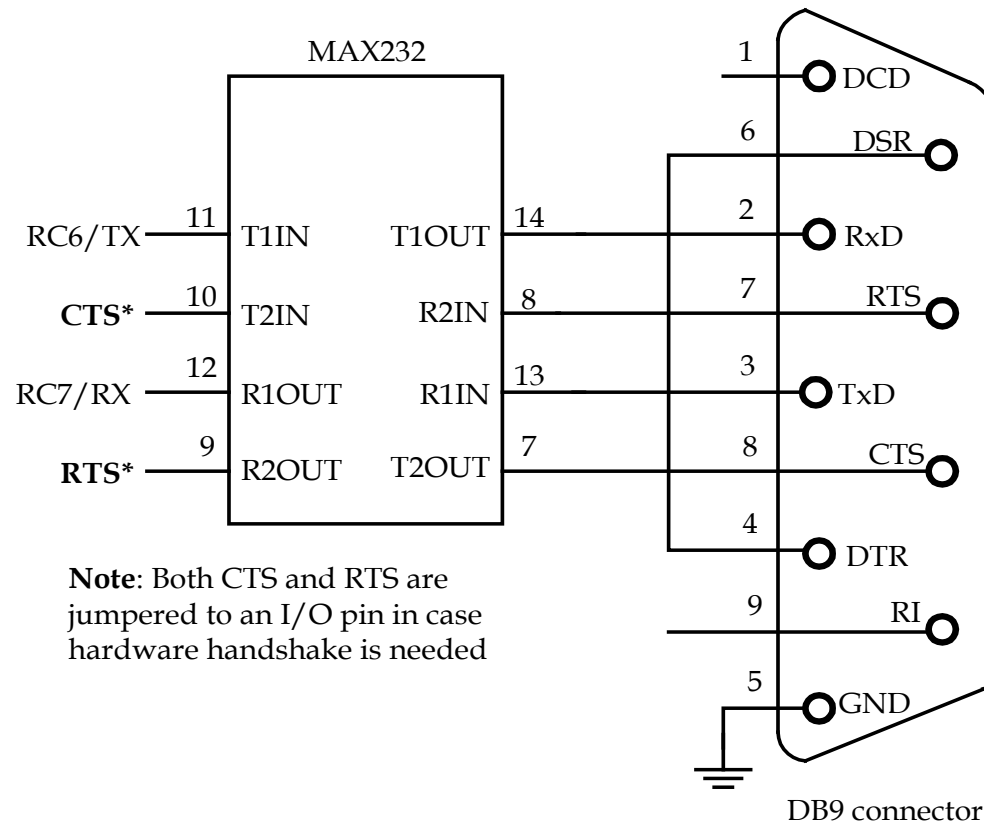

Figure 9.13 Diagram of USART and EIA232 DB9 connector wiring in SSE452, SSE8680, and SSE8720 demo boards
- The circuit connection of the MAX232 with the PIC18 is shown in Figure 9.13.